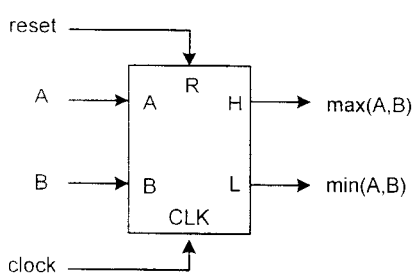
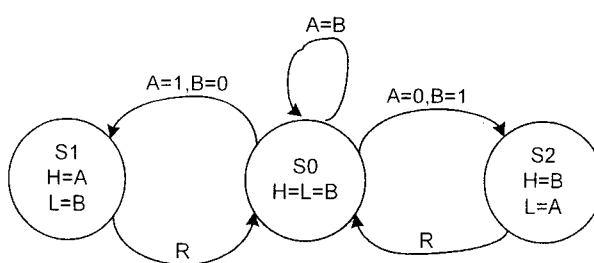

Figure 5.1
Figure 5.2
5. Figure 5.1 shows a synchronous bit-serial comparator cell where A and B inputs receive two 8-bit unsigned binary numbers with MSB first. The cell can be in one of three states representing S0, S1 and S2 as shown in Figure 5.2. A logic '1' on the R input resets the internal state of the cell to S0. The cell produces H and L outputs after one clock cycle delay which are respectively the higher and lower value of the input sequence in bit-serial form.